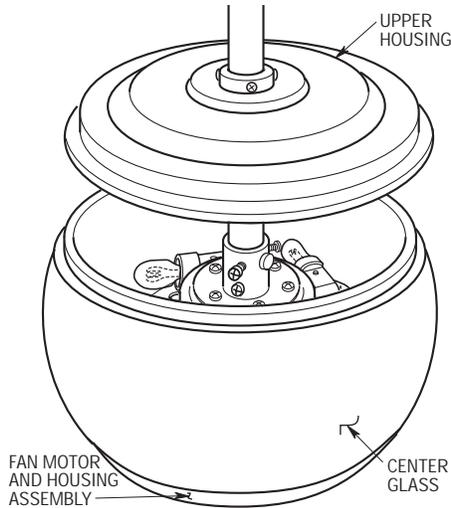
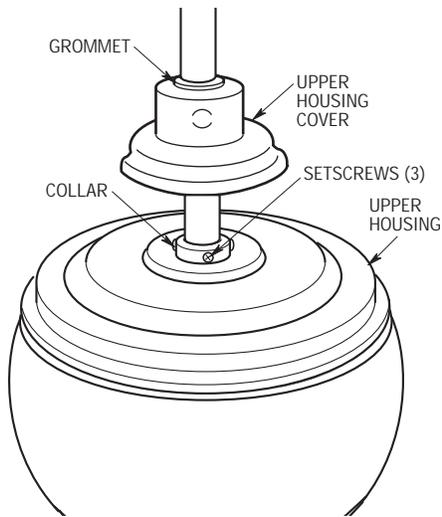

Figure 8
Figure 9
- 17. Place the center glass on the rim of the fan motor and housing assembly; make sure the center glass is seated evenly in the housing flange (Figure 8).
- 18. Slide the upper housing over the downrod until it rests on the center glass (Figure 8). Make sure the upper housing is seated firmly on the rim of the center glass, then tighten the three setscrews in the upper housing collar (Figure 9).
- 19. Make sure the grommet is properly installed in the upper housing cover, then slide the cover over the downrod until it rests on the upper housing (Figure 9).